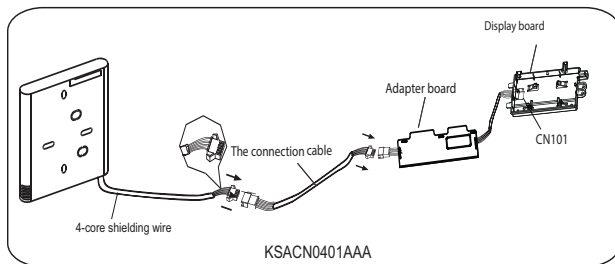

Fig. 14 — Installation of KSACN0401AAA
2. Connect the female joint of the wires group from the adapter board with the male joint of the connective wires group. Next, connect the other side of the adapter board with the display board (see Fig. 14). Follow the instructions on the indoor unit's installation instructions for more details.
3. Connect the other side of the connective wires group with the male joint of the wires group leads from the wire controller (see Fig. 14).